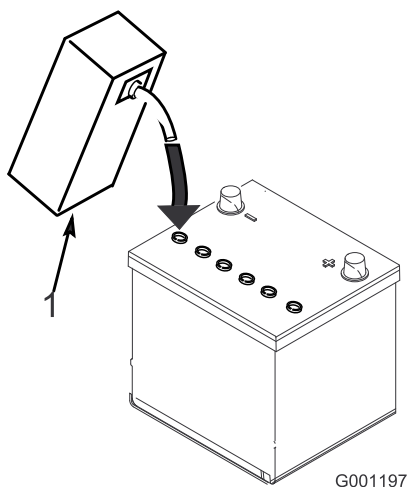

Figure 5
5. Carefully fill each cell with electrolyte until the plates are covered with about 6 mm (1/4 inch) of fluid (Figure 5).